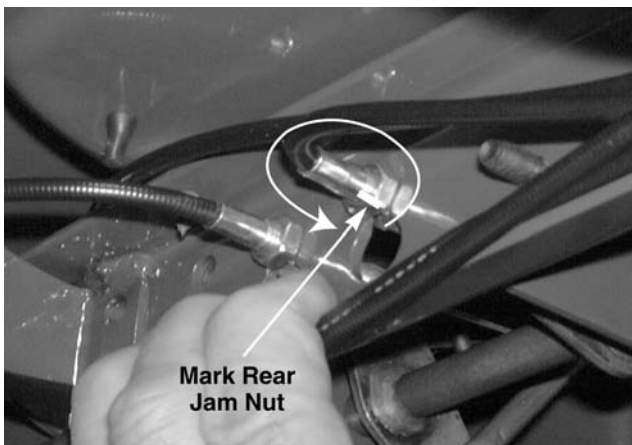

Figure 8-22.
15. Looking at the line that was marked on the rear jam nut, loosen the rear jam nut 2 complete rotations using a 1/2" wrench. See Figure 8-22.